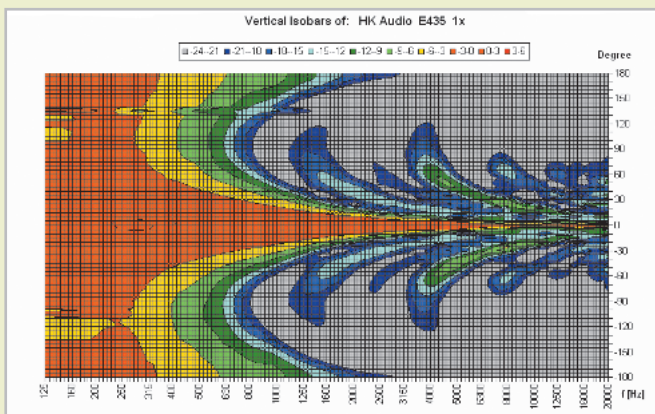

Fig. 13: Vertical isobars of an E435 unit. The small side lobes starting at 4 kHz are attributable to the spacing between drivers.
crosses over into the far field, the more or less uniform cylindrical wave front transitions into a spherical wave front whose beam width (BW) again depends on the source's length. This can also be calculated using a formula - or surmised directly from our isobar diagram in figure 13. It indicates very clearly that the vertical convergence effect is quite strong even with a short line array. At 1 kHz and –6 dB, a single E435 has a beam width of 60°, and 6° at 10 kHz. Unlike with an HF horn, the beam's focus grows even tighter with increasing frequency. This property has to be kept in mind when aligning the source because the high frequencies may miss some of the audience. The best option is to place such a small line array lacking any further curvature just above the audience's ear level. A taller column, for example, a 1.5 m setup with four E435 units, simplifies matters because of the extended near field and the height of the radiated cylindrical wave. A fourfold increase in the array's length extends the near field to the power of two - that is, by a factor of 16. It extends to 3.2 m at 1 kHz, and to 16 m at 5 kHz. So an Elements array comprising four units is best set up so that the top unit sits above the heads of the audience.
Now let us address the second question concerning the distance between drivers. It is exactly 9.5 cm. Side lobes appear at about 1.8 kHz and new parasitic main lobes begin forming at 3.6 kHz. Initially, this does not sound like good news, but there is a bright side: The overall column's beam, created by point sources spaced 9.5 cm apart, is overlapped by the beam of the individual driver, whose directivity is quite pronounced at 3.6 kHz and thereby reduces the unintended side lobes. The isobar curves in figure 13 show the side lobes at 4 kHz starting at ±60° with a level of –6 dB in relation to the 0° axis.
Figures 13 and 14 show the vertical isobars for one and two E435s. The main difference is that in the longer array, the convergent effect is more pronounced even in the low frequencies. This means that in venues with challenging acoustics (long reverberation time), the tallest possible column should be set up to achieve significant directivity in the lower frequencies even if the application does not require high sound pressure levels!